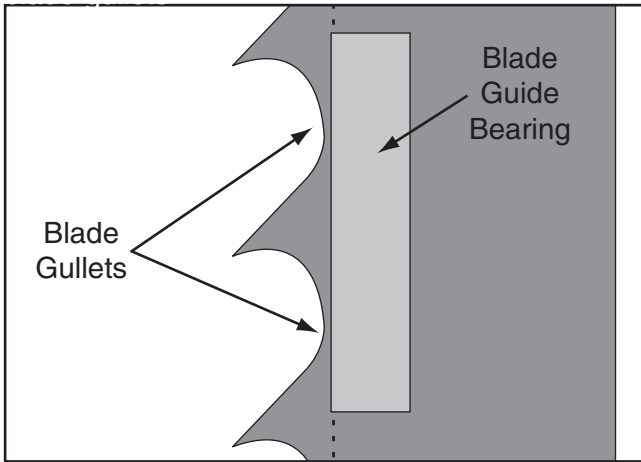

Figure 26. Lateral adjustment of blade guides.
4. Rotate knurled knob behind blade guides to position blade guides laterally, so front edges of bearings are just behind blade gullets, as illustrated in **Figure 26** on **Page 26**.